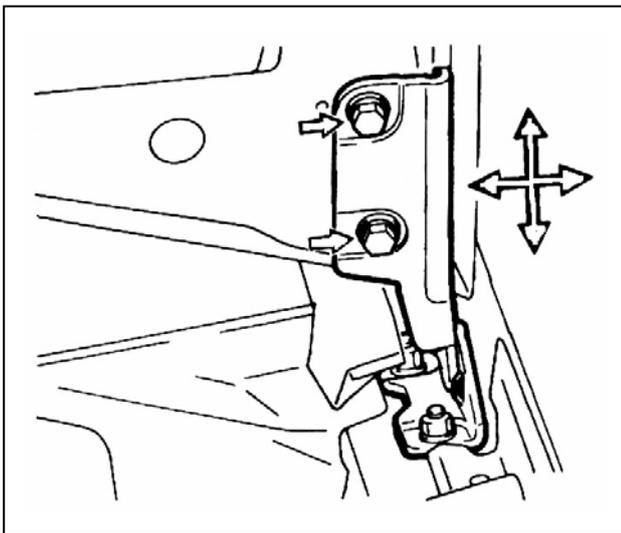

Fig. 19-31
- ① Adjust the clearance between the bonnet and body all around bonnet as shown in Fig. 19-31